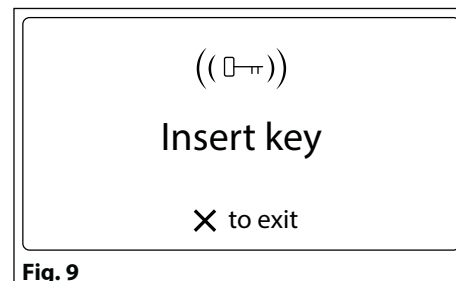

Fig. 9
- press **"3"** to add a key: the display will show **"INSERT KEY"** as shown in **Fig. 9**